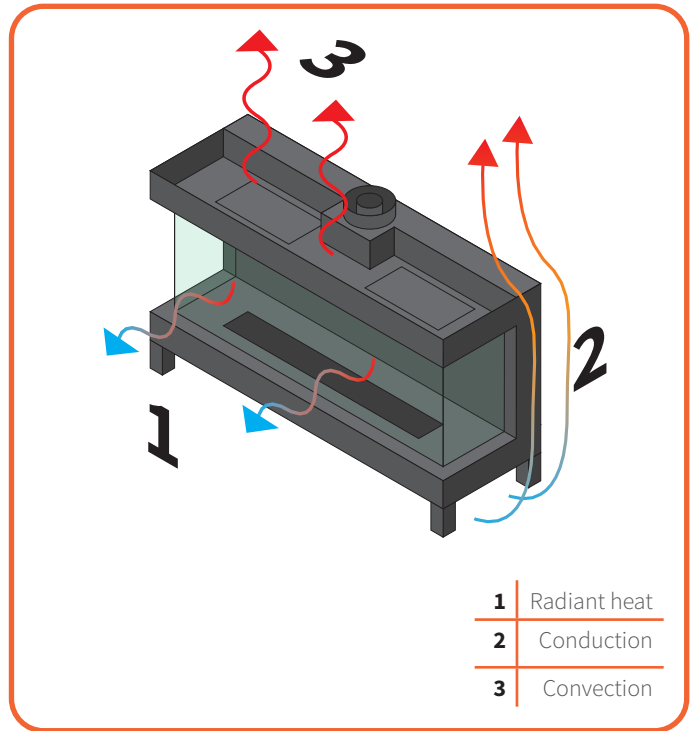

Figure 7.2 - Types of heat
**Pro tip:** To avoid heat accumulation in the enclosure a non-flammable false ceiling (see **Figure 7.2**) is to be placed directly above the outlets to guide the hot air out. The ventilation grilles need to be easy to clean at all times.